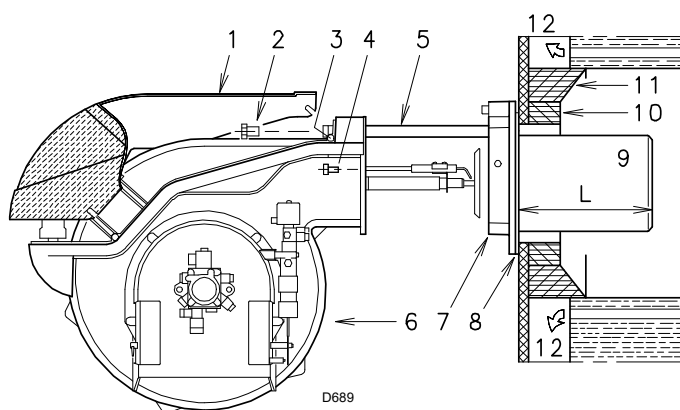

Fig. 7
5.4 Blast tube length (Fig. 7)
For boilers having a water-cooled front the refractory fettling 10)-11)(Fig. 7) is not required unless it is expressly requested by the boiler manufacturer.
Once this operation has been carried out (if it was required), secure flange 7) (Fig. 7) to the boiler plate interposing the supplied gasket 8). Use the 4 screws provided after having protected the thread with anti-seize products (high-temperature grease, compounds, graphite).
- Retract the burner on its slide bars as shown in Fig. 7 pag. 12.